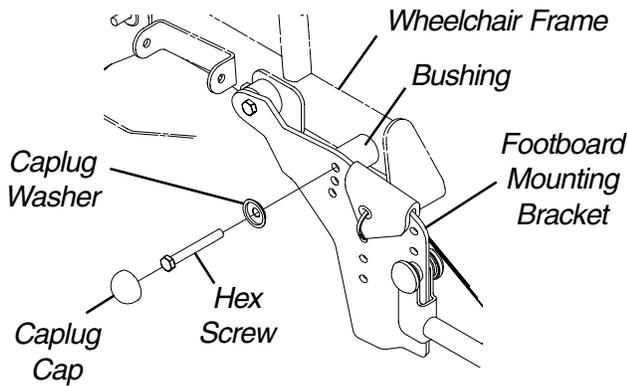

FIGURE 3 - ADJUSTING FLIP-UP REMOVABLE FOOTBOARD - ANGLE
**Angle (FIGURE 3)**
4. Move the footboard mounting brackets to one (1) of three (3) positions.
5. Reinstall the two (2) hex screws and caplug washers through the two (2) footboard mounting brackets and bushings and into the wheelchair.